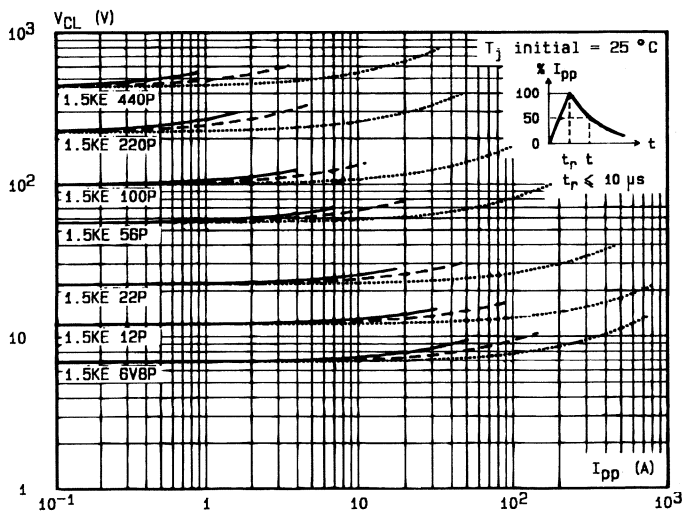

Fig.2 - Clamping voltage versus peak pulse current.
Note : The curves of the figure 2 are specified for a junction temperature of 25°C before surge. The given results may be extrapolated for other junction temperatures by using the following formula : $\Delta V (BR) = \alpha_T (V (BR)) \times [T_j - 25] \times V (BR)$